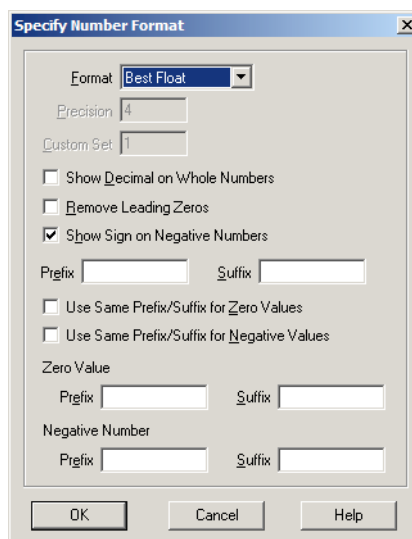

Figure 17-11. The Specify Number Format dialog.
2. Click Number Format on the Label page; the Specify Number Format dialog appears, as shown in Figure 17-11.